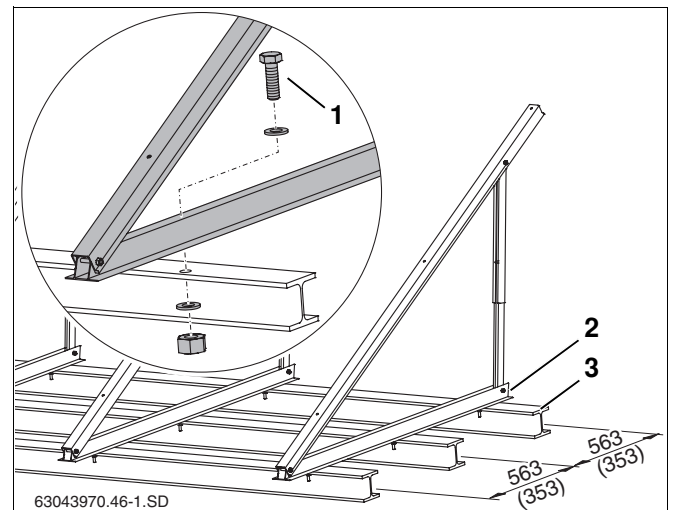

Fig. 26 Flat roof support on girders, dimensions in mm (value in brackets = landscape version)
You can fasten the flat roof supports with anchor bolts. As an example, we describe fastening onto girders (Fig. 26, **Item 3**).
- Transfer the lower profile hole clearances (Fig. 26, **Item 2**) onto the girders, and drill the corresponding holes.
- Insert screws (see Tab. 8 and Fig. 26, **Pos. 1**) through the profiles and girders and screw tight with nuts and washers.